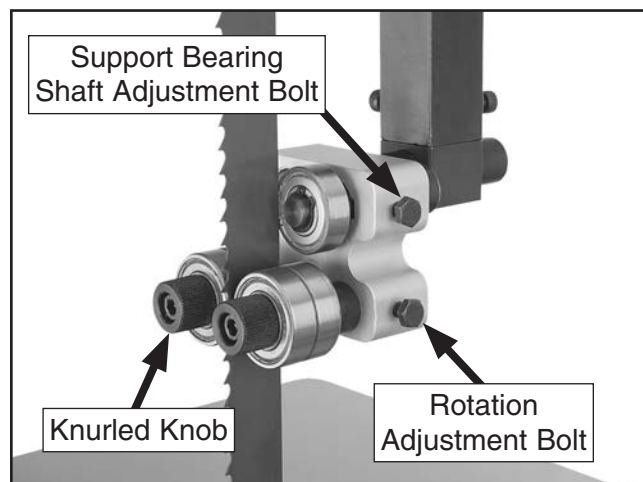

Figure 24. Front upper blade guide controls.
3. Familiarize yourself with the upper blade bearing controls shown in **Figures 24–25**.
7. Loosen the support bearing shaft adjustment bolt and the lateral rod adjustment bolt (see **Figures 24–25**).